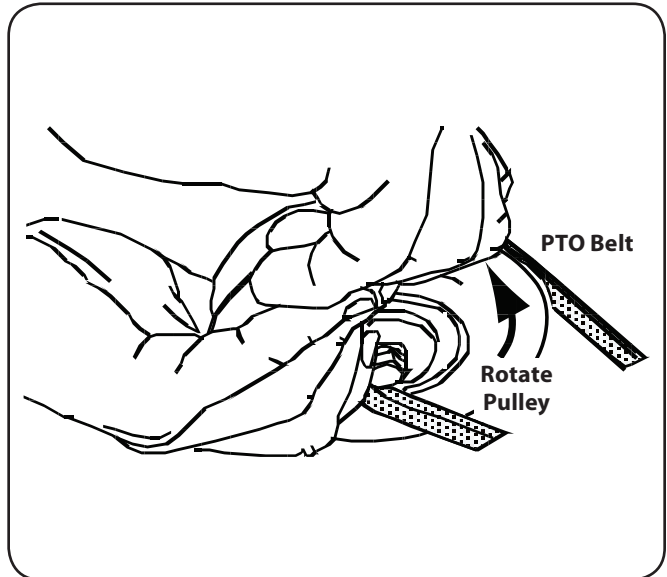

Figure 7-8
11. Place the belt into the engine pulley. See Fig. 7-8.